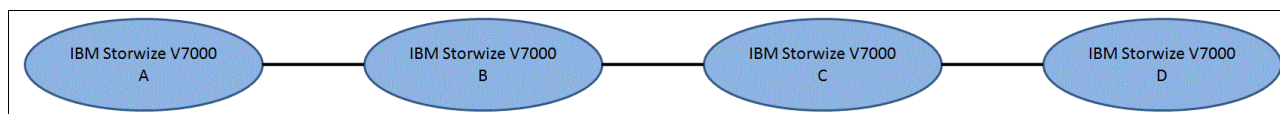

Figure 11-74 Daisy-chain topology for IBM Storwize V7000 Triangle topology
- ▶ Daisy-chain topology (Figure 11-74)